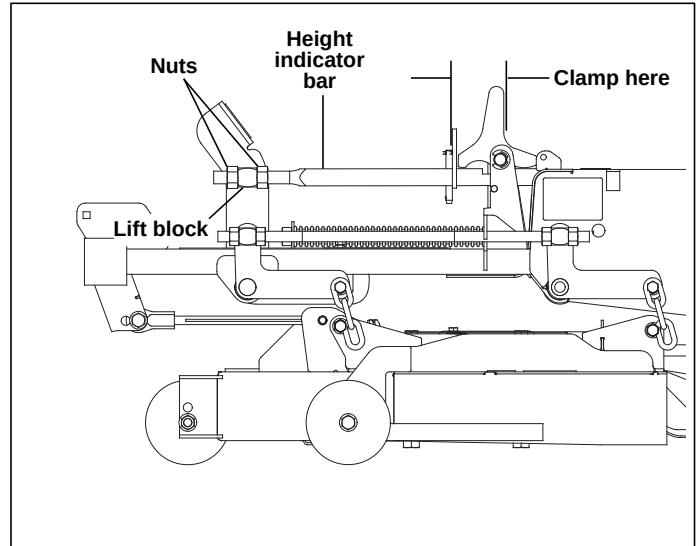
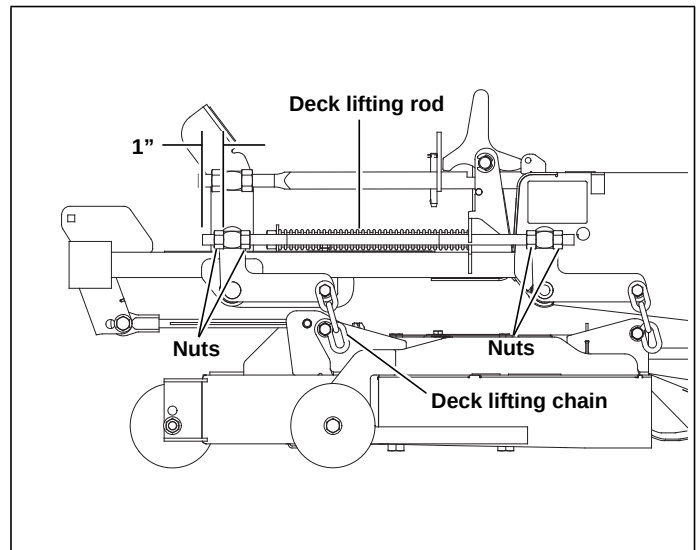
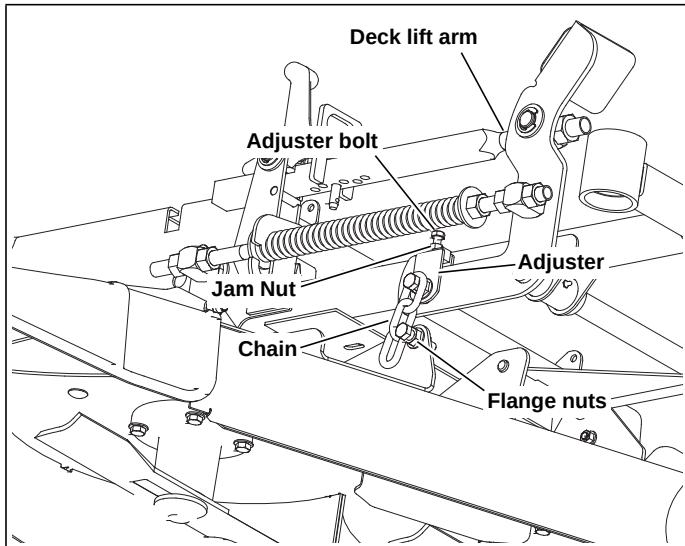

Figure 6-2
Figure 6-3
Figure 6-4
5. Clamp the height adjusting stop against the stop handle. This will assure that the height will not move during the setting process. Otherwise, spring pressure from the deck lift springs will tend to pull the stop away from the handle. Figure 6-2
6. Loosen all nuts on the deck lift threaded rods, and the hardware on the height indicator bar (on the right front), until **all** the deck lift chains are loose, **and** the deck is sitting tightly on all four blocks. Figure 6-2, Figure 6-3 & Figure 6-4
7. Loosen the two nuts on the front of height indicator so that the foot pedal is free. Figure 6-2
from the lift block at approximately 1" (left & right side). Figure 6-3
12. While keeping the chain tight, tighten the nuts against the deck lift block on the height indicator rod, just enough to carry most of the deck weight on that side — the block should be able to move with only a slight drag. Figure 6-2
15. Loosen the hardware that clamps the adjuster to the deck lift arm. Figure 6-4
16. Loosen the 5/16" jam nut on the adjuster lift chain, and back the adjuster bolt out to allow the adjuster to move up and down freely. Figure 6-4
18. Tighten the adjuster bolt jam nut to prevent the adjuster bolt from moving. Figure 6-4
19. Tighten the hardware holding the chain and adjuster onto the deck lift arm. Figure 6-4